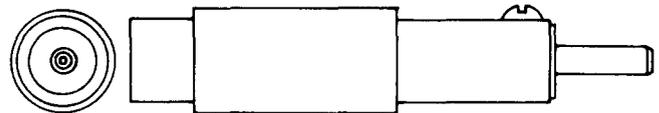

Fig. 8—636A Jack
2.08 636A: The 636A coaxial-type jack (Fig. 8) has a threaded body and is used with a 440-type plug on one end and to terminate the KS-19224, L2, cable using a solderless crimped sleeve on the other end. The insulated metal parts are capable of withstanding a 1500-volt ac breakdown test. The jack is provided with two hexagonal nuts for mounting and is used with the J68418A frequency modulation terminal transmitter.